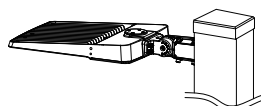

Figure 3-1-3
- Step3: Fasten the pole cover to the pole after making sure the wires are connected correctly, Figure 3-1-3;